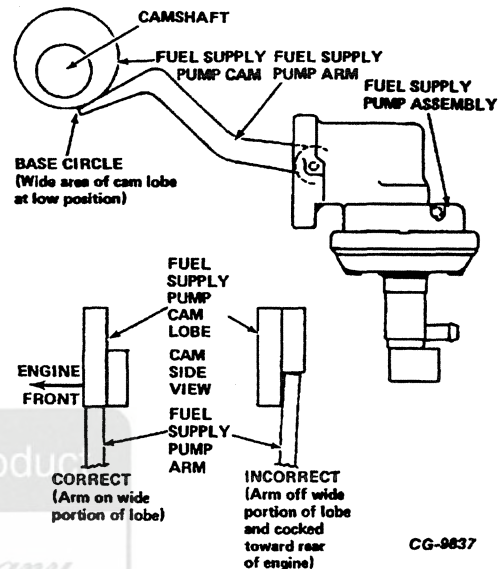

Figure 9-21. Fuel Supply Pump and Camshaft Relationship
- a. Position engine approximately 90° ATDC (timing mark on vibration damper toward top). At this position, the fuel supply pump cam lobe will be away from the pump arm pathway. (Refer to Figure 9.21.)